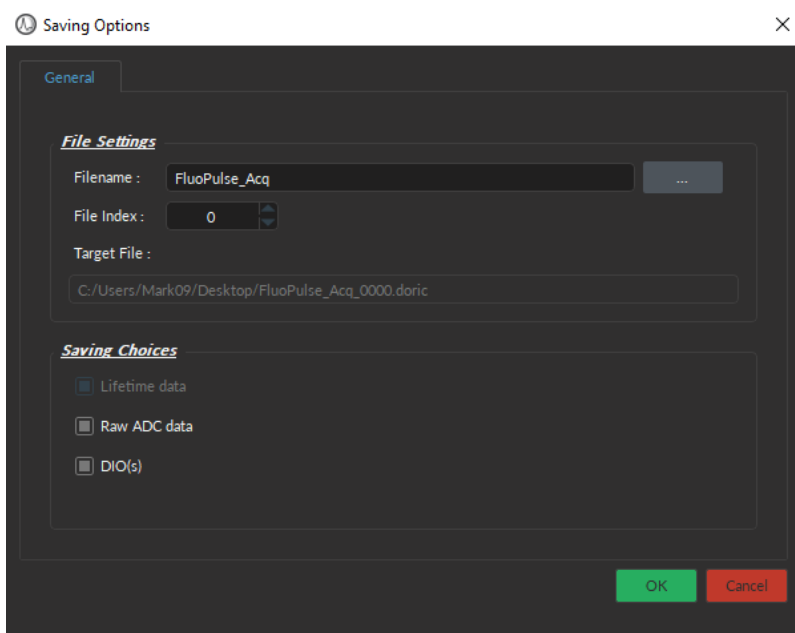

Figure 12.5: Saving Options Window
4. The **Saving Options** button opens the **Saving Options** window (Fig. 12.5). See section 12.4.1 for more details.